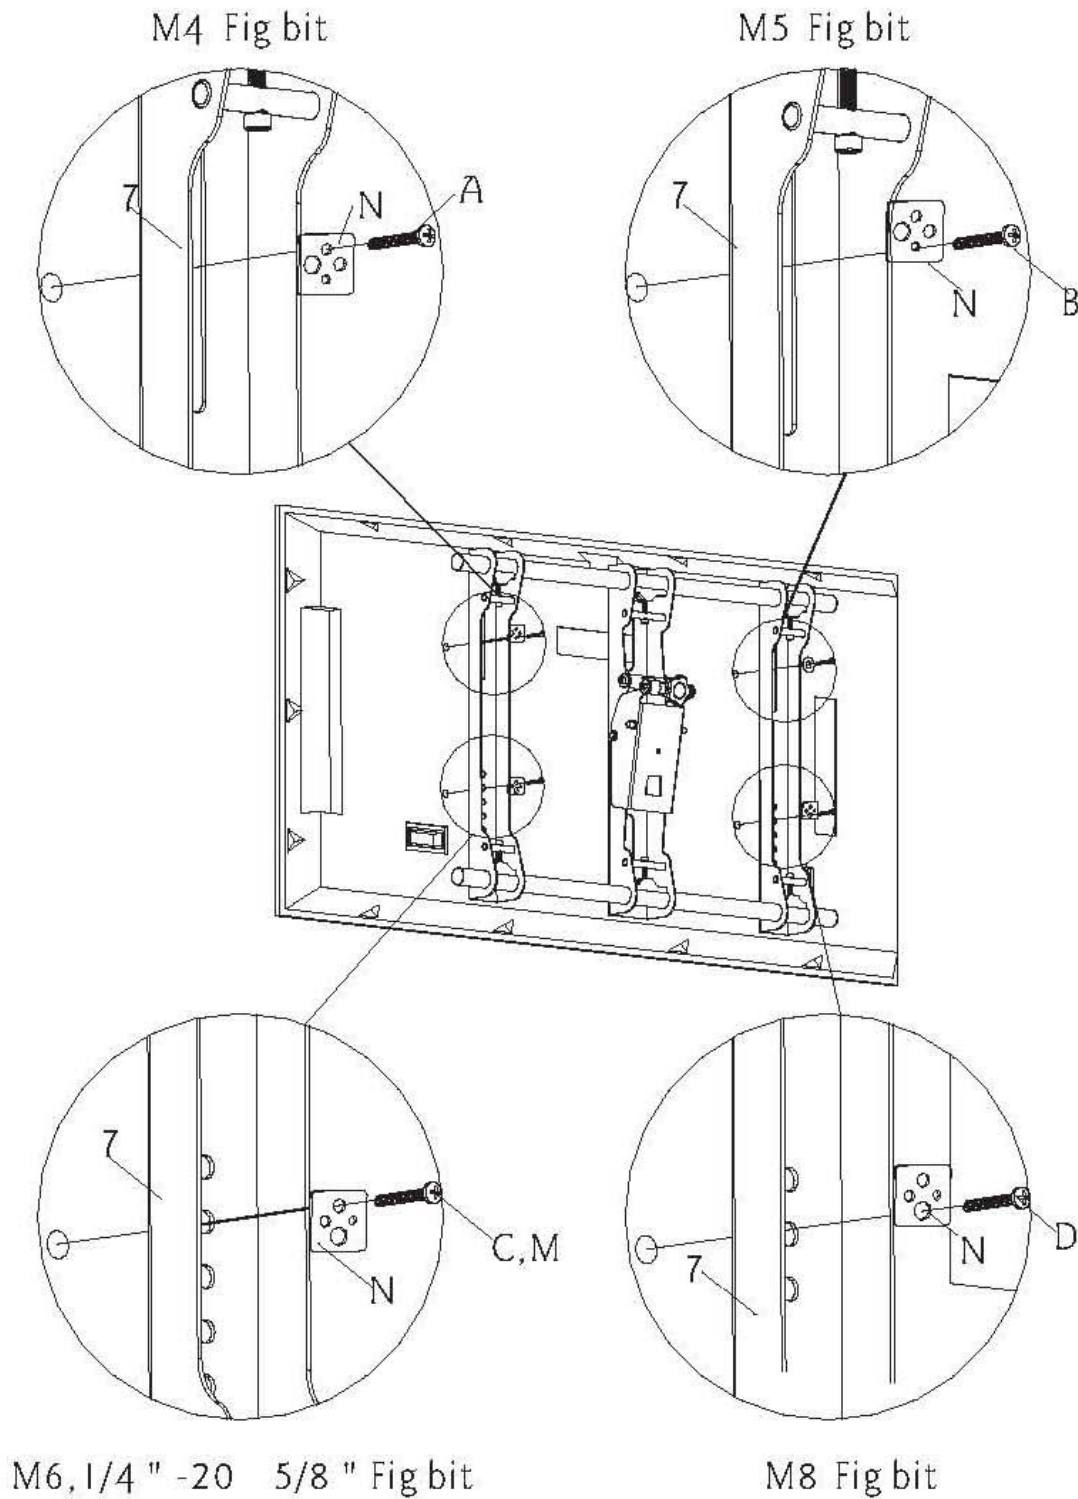

Fig 2a
1. Some displays have vertical backs. No spacer is required. Install the bracket directly to the back of display by using bolts and square washers provided. As shown in Fig. 2a.